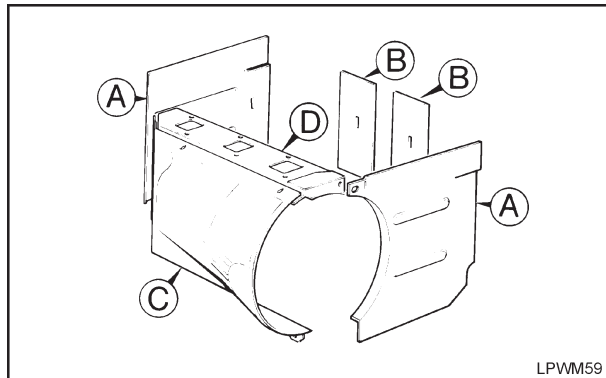

Figure 2.25.1 Air Cowling, Shields and Baffles
After the axial fan cowling section has been removed the air baffles, (B) in 'Figure 2.25.1' which are fitted between the cylinder barrels, can be removed for cylinder fin cleaning by removing the split pin from the fuel pump side; note that a spring clip retains the tie in position.